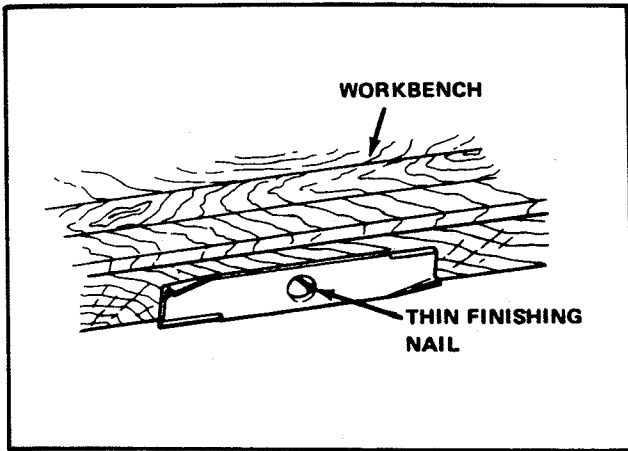

FIGURE 14 - Balance Blade
5. Balance the blade as shown in Figure 14. Center the blade's center hole on a nail lubricated with a drop of oil. A balanced blade will remain level.